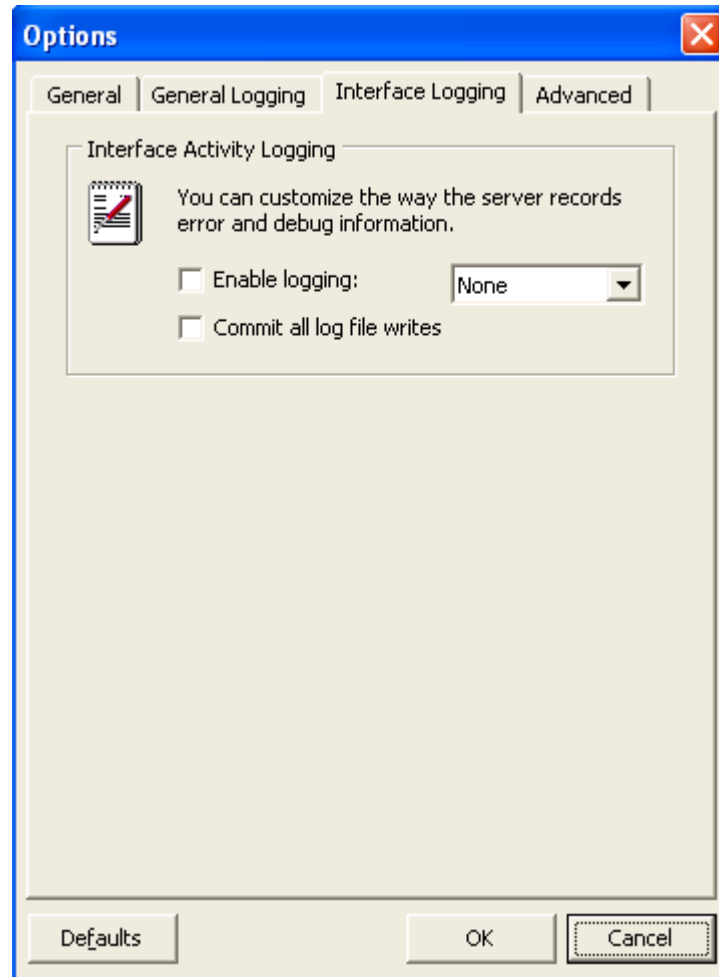

Figure 14 - Interface Logging Options Tab
3. From the **Options** window, select the **Interface Logging** tab (Figure 14).